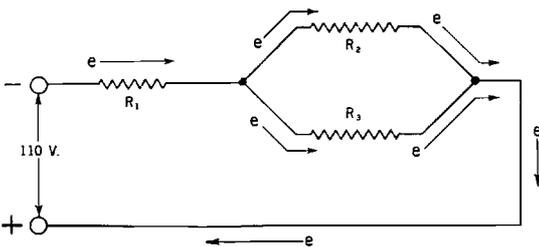

Fig. 30-13. The series-parallel circuit.
**Combined Series and Parallel Circuits.** In addition to having circuits where the resistors are in series or parallel, we may have circuits having some devices connected in series and others in parallel. Such a circuit appears in Figure 30-13. Here  $R_1$  is in series with the combination of  $R_2$  and  $R_3$ . But  $R_2$  and  $R_3$  are connected parallel with each other. To find the total resistance, first find the total resistance of  $R_2$  and  $R_3$  by use of the formula